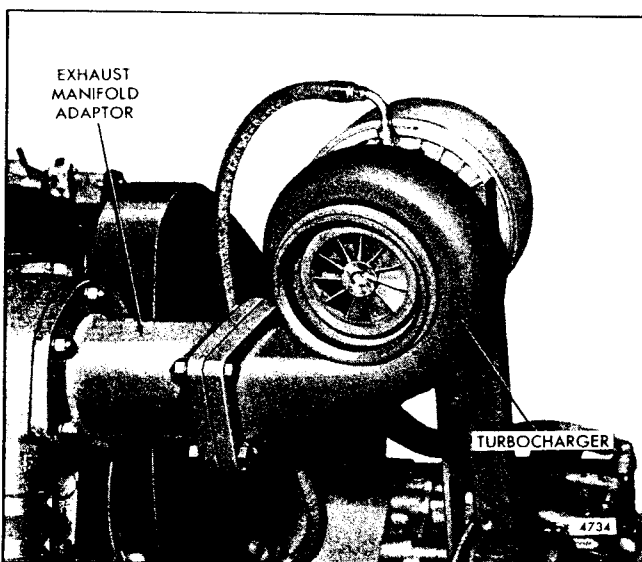

Fig. 1 - Turbocharger Mounting
- a. Insert the blower drive coupling supports through the opening in the rear face of the flywheel housing, with the protruding end of the drive cam facing the drive shaft (Fig. 1).
The TE0675 turbocharger (Figs. 1 and 2) is designed to increase engine efficiency and power output. Power to drive the turbocharger is extracted from the waste energy in the engine exhaust gas.